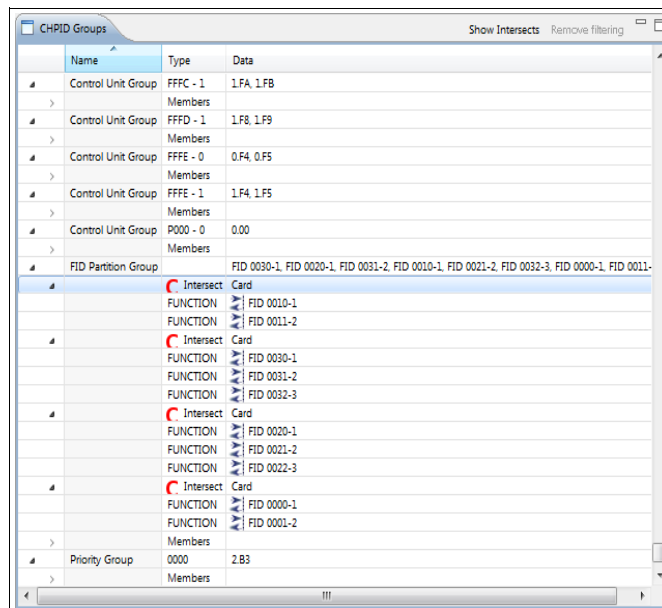

Figure 4-28 Adapter Type Selection
3. The tool displays a list of available and compatible card types for the CHPID, as shown in Figure 4-28. Select an adapter type and click **OK**.